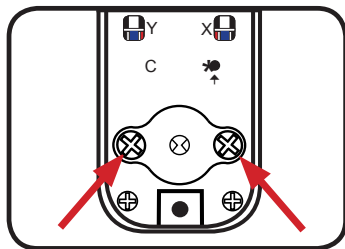

Fig.1
1. Turn the keypad over and remove the 2 screws either side of the spindle follower as per **Fig.1**.